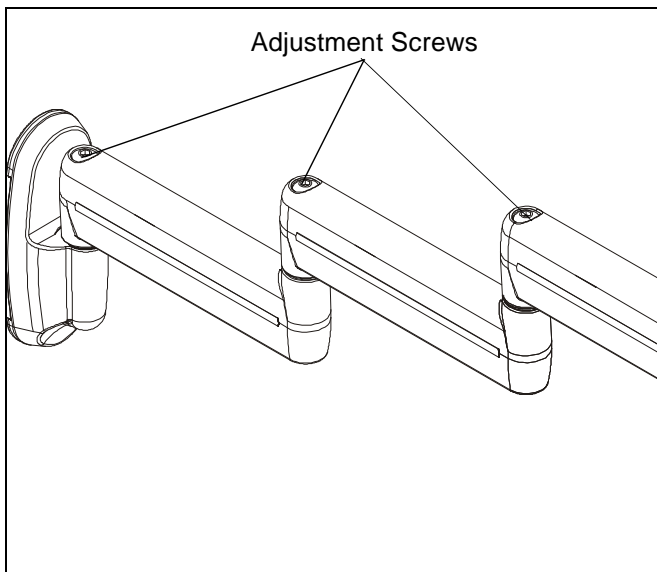

Figure 10
1. Using 3/16" key (M), slightly loosen or tighten the adjustment screw(s) as necessary. (See Figure 10)